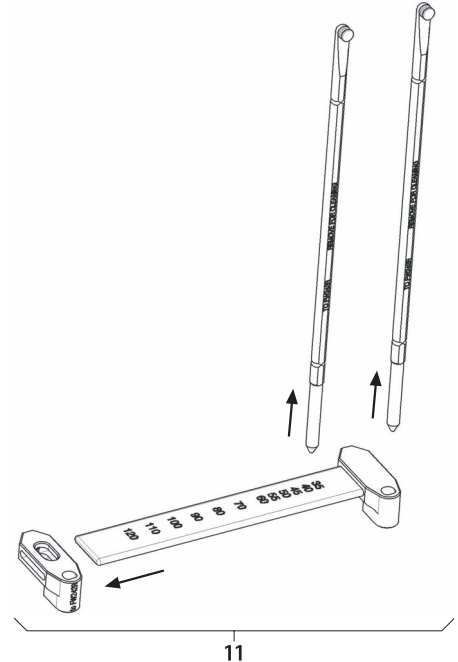

Fig. 7
- ▶ Disassemble rod length measuring instrument **11**, see Fig. 7.